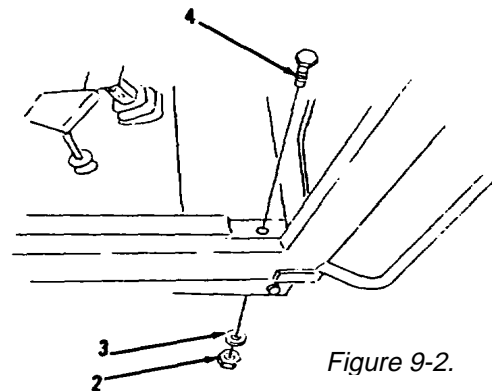

Figure 9-2.
8. Install two bolts (4), washers (3) and nuts (2, Figure 9-2) in two front corners of cab. Tighten two bolts (4) to 870 ft-lb torque.